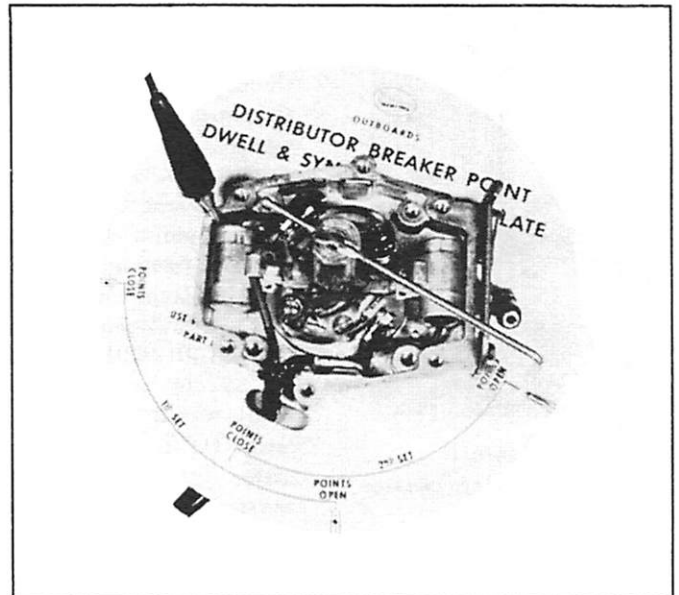

Figure 6. Dwell Plate C-91-30356A1
- b. Move indicator arm to align "Points Open" and adjust brown (black on Mark 78-75; white on Thunderbolt ignition) lead breaker points until meter pointer hand indicates points just begin to open. (Figure 6 or 7) If points open too soon, point gap must be closed slightly. If breaker points open too late, gap must be opened slightly.